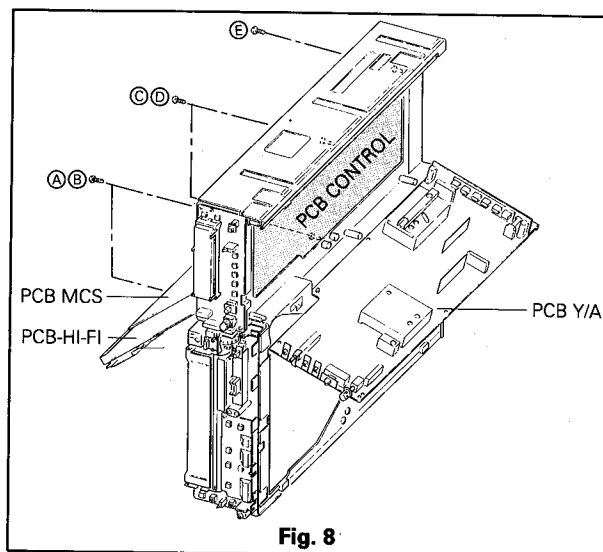

Fig. 8
- C. The PCB-Control may be serviced at this point. If the PCB-Control circuit board requires complete removal, remove five screws (A B C D and E) as shown in Fig.8.